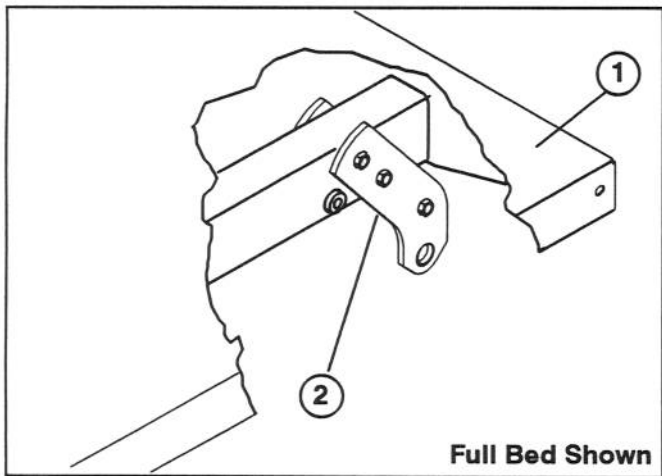
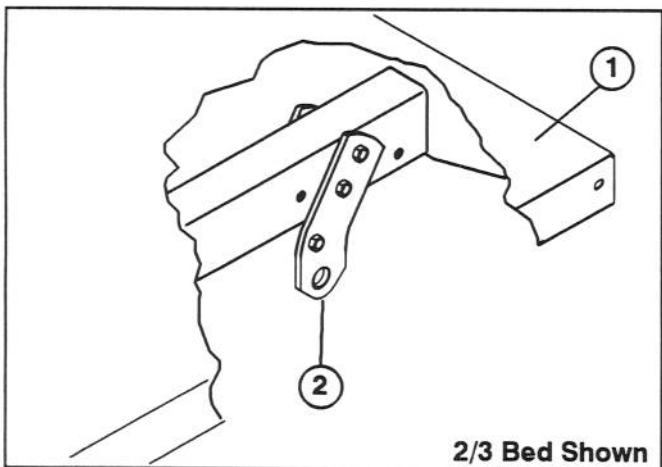

Figure 4
Figure 5
4. Mount each set of rear pivot plates to right and left bed frame channels with capscrews and locknuts previously removed. Position brackets on full bed as shown in figure 4, and for 2/3 bed as shown in figure 5.
NOTE: On a Workman 3000 with a full flat bed, assure rear pivot plates are bolted to the bed frame/channel so that lower end angles to the rear (Fig. 4).